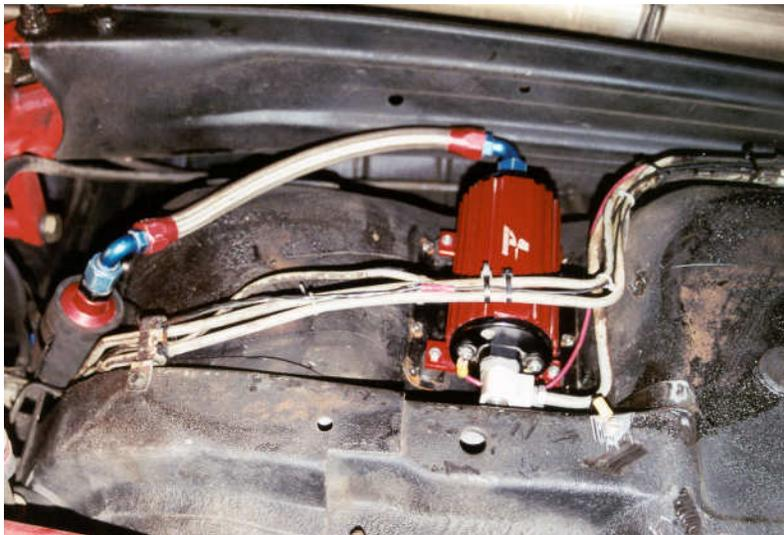

Figure 8
- 2-1. In most applications the fuel pump will be mounted as shown in figure 8. To correctly locate the fuel pump mounting position, line up the pump outlet with the OEM fuel supply line using the 90-degree adapter fitting as a guide. Mark the four mounting holes with the pump in place or using the supplied pump template as a guide. Insure there is nothing above the area you are about to drill into and drill four ¼" holes.
- 2-9. Position the fuel filter in the desired location, typically it will need to be located as shown in figure 8.
- 2-12. With the completed hose, connect the fuel filter to the fuel pump. Your fuel pump plumbing should now look similar to figure 8.